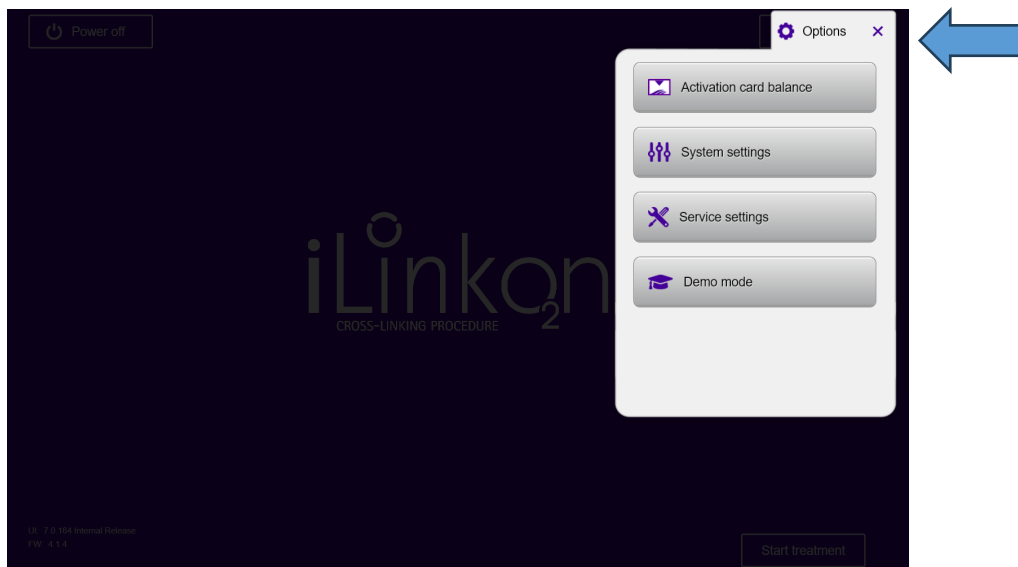

Figure 3-29. Accessing “Options” Menu
- From the Patient List home screen, press the “Options” button to display the 4 Options menu as shown in Figure 3-29.